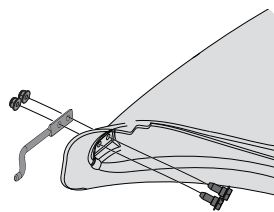

Figure 15
1. From the inside of the boot, put the two hex head screws (738-1225) through the holes at the bottom front of the boot. See Figure 15.
2. Put the mounting rod (747-06309) in place over the hex head screws. Make sure the tip of the rod is facing out from the boot. See Figure 15.
3. Begin threading the two flange lock nuts (712-04064) onto the hex head screws. See Figure 15.